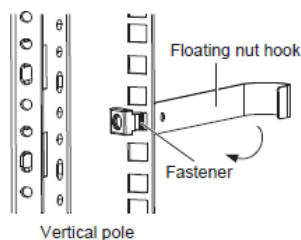

Figure 2-3 Schematic diagram for installing floating nut
- Lead the floating nut through the square hole. Hitch the other fastener of the floating nut and pull it out to fix the fastener to the square hole completely as shown in Figure 2-3.